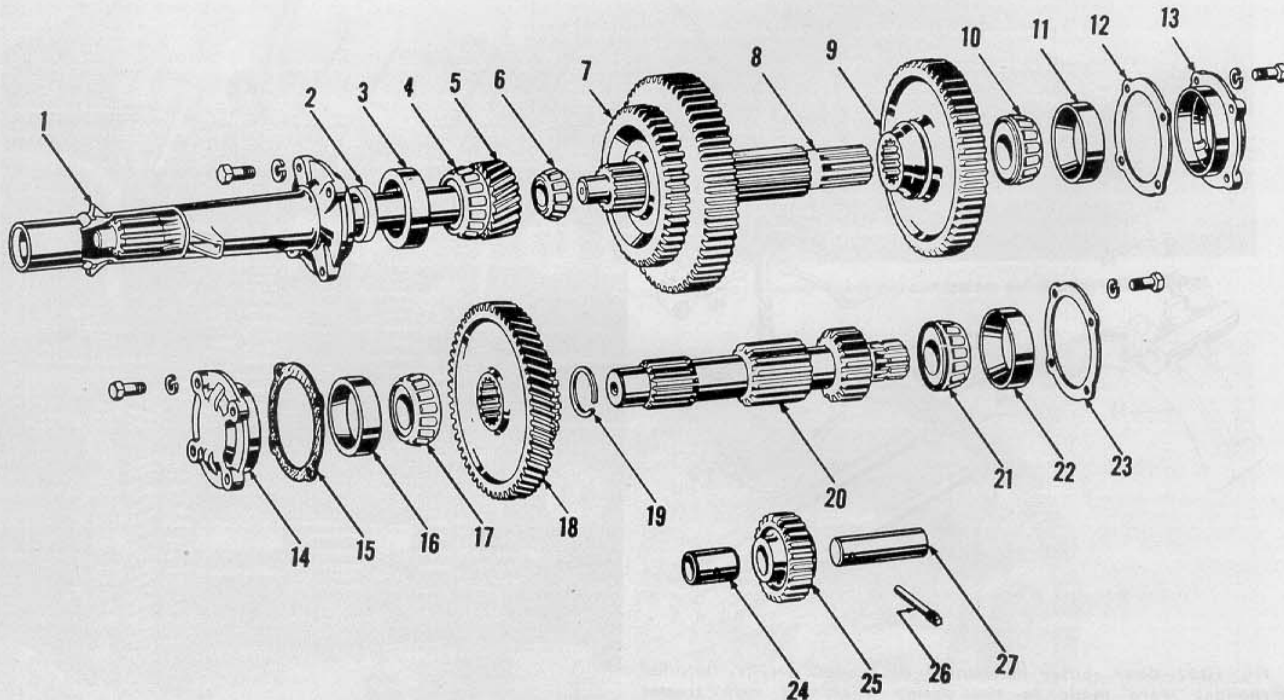

Fig. FO55—Transmission gears and shafts on models 2N-9N.
**76. REVERSE IDLER GEAR.** May be removed after countershaft is out. Unscrew idler shaft lockpin (26—Fig. FO55) located on outer left side of transmission housing and remove idler shaft and gear (27 & 25). Rebush gear or renew gear and shaft and reinstall with beveled gear face toward rear of transmission.